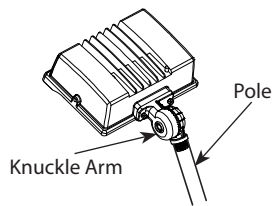

Fig. 2
3. The **Knuckle Arm** allows 180° of vertical aiming adjustment depending on the mounting position as shown in **Fig. 2**.